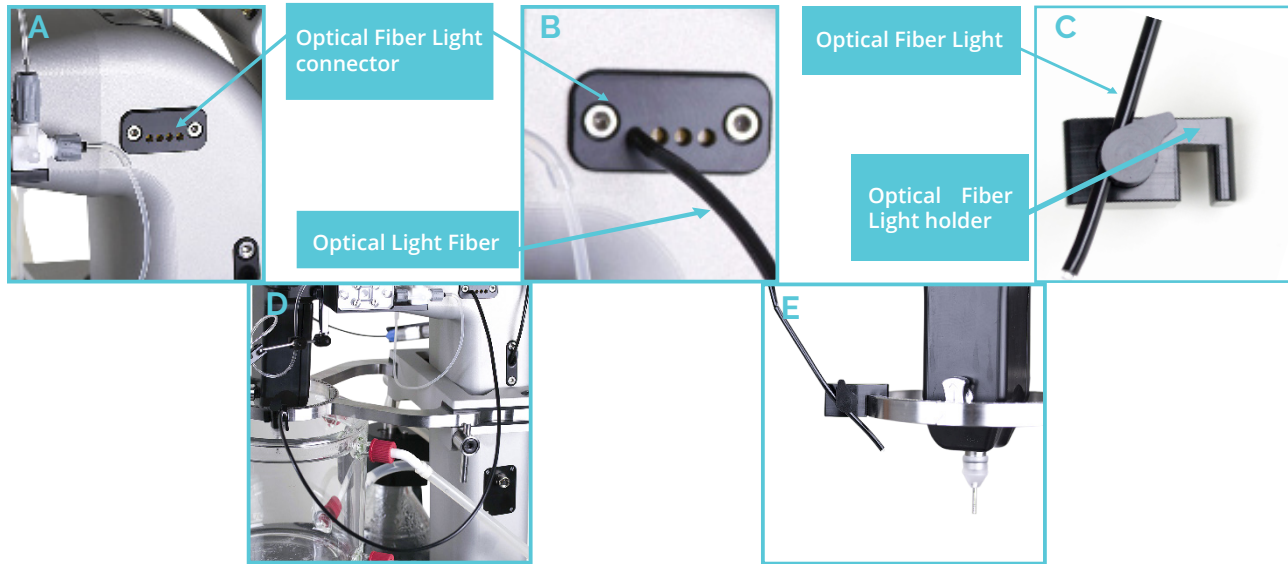

Fig. 10.A.-E.: How to connect the Optical Light Fiber to the MyoHEART system. The Optical Light Fibers can be used to have light on the mounted heart.
- Install the four Optical Light Fibers on the MyoHEART system if needed. The Optical Light Fiber connector is found on the right side of the MyoHEART Tower (fig.10.A.-E).